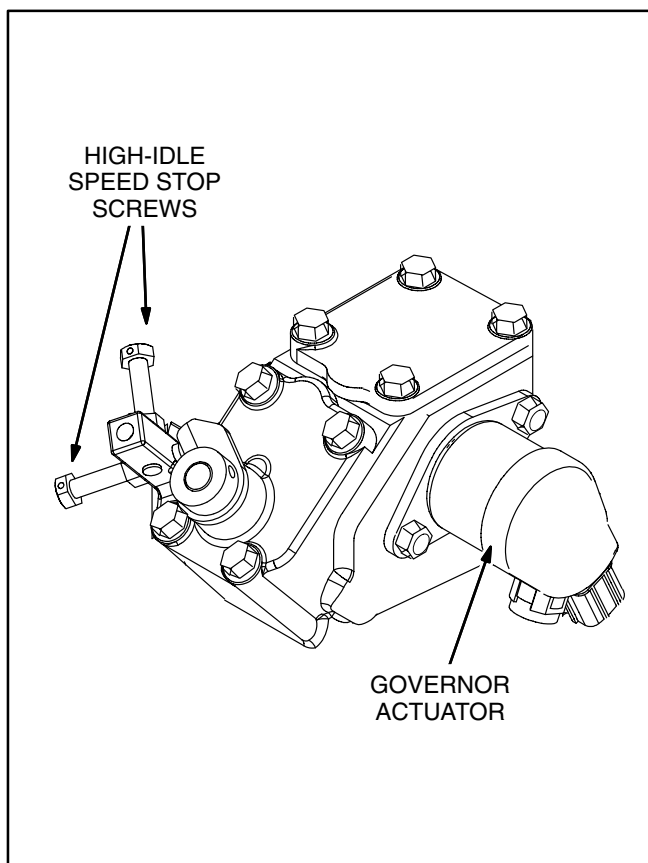

FIGURE 9-2. GOVERNOR ACTUATOR AND HIGH-IDLE SPEED STOP SCREW
The governor actuator (Figure 9-2) is removeable by removing the housing end panel (Figure 4-2) and the fan and inner bulkhead (Figure 8-1). Remove the actuator from the engine block (2 screws). When reassembling, make sure the O-ring seal is in place and that the push rod goes through the internal guide hole. Replace the actuator if:
3. Disconnect all loads from the genset to protect them from overfrequency and start the genset. Adjust the stop screws (Figure 9-2) to obtain 67.3-68.3 Hertz (2019-2049 rpm). **TO STOP THE ENGINE**, disconnect the fuel pump from the battery.